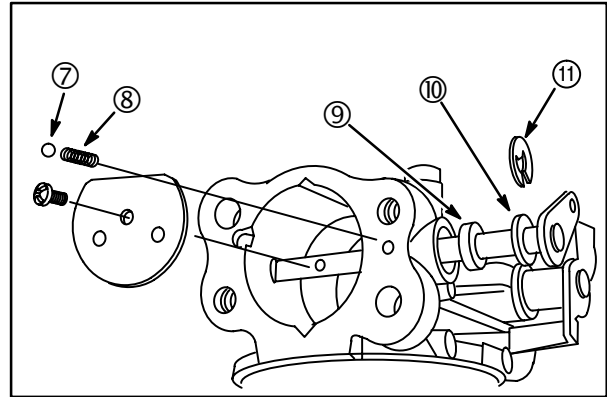

Fig. 35
10. Install new “E” ring (11), washer (10) and felt seal (9) onto choke shaft, **Fig. 35**.
11. Insert spring (8) and check ball (7) in to spring pocket. Compress with a small round punch.
13. Install choke plate as shown, **Fig. 35**.